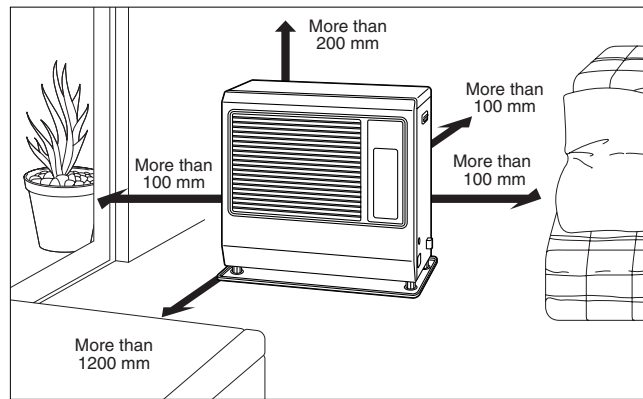

Fig. 1
1. Select heater location. Ensure minimum clearances as indicated below between heater and nearest combustible materials. (See Fig. 1). Provide service access to clean the rear circulating Fan Guard, integral fuel strainer and reset button.